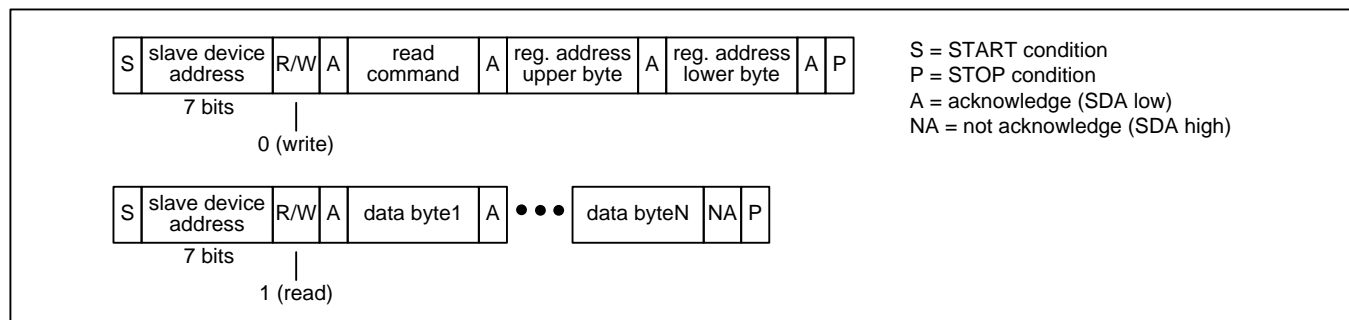
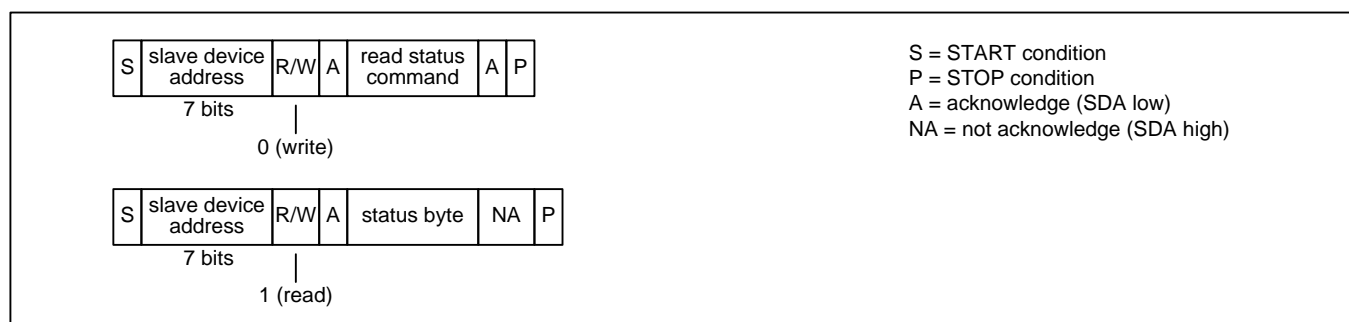

Figure 14 – I²C Read Transaction Functional Timing
Figure 17 – I²C EEPROM Read Status Transaction Functional Timing
Read Transactions. The device registers are accessible when EESSEL=0. The internal EEPROM memory is accessible when EESSEL=1. The bus master first does an I²C write to the device. In this transaction three bytes are written: the SPI Read command (see Table 4), the upper byte of the register address, and the lower byte of the register address. The bus master then does an I²C read. During each acknowledge (A) bit the device fetches data from the read address and then increments the read address. The device then transmits the data to the bus master during the next 8 SCL cycles. The bus master terminates the read with a not-acknowledge (NA) followed by a STOP condition (P). See Figure 14. Note: If the I²C write is separated from the I²C read by other I²C transactions then the device only outputs the data value from the first address and repeats that same data value after each acknowledge (A) generated by the bus master.
EEPROM Read Status. The bus master first does an I²C write to transmit the SPI Read Status command (see Table 4) to the device. The bus master then does an I²C read to get the status byte. In this byte, the least significant bit is set to 1 if the transfer is still in progress and 0 if the transfer has completed. See Figure 17.
Note: In Figure 14 through Figure 17, a STOP condition (P) immediately followed by a START condition (S) can be replaced by a repeated START condition (Sr) as described in the I²C specification.